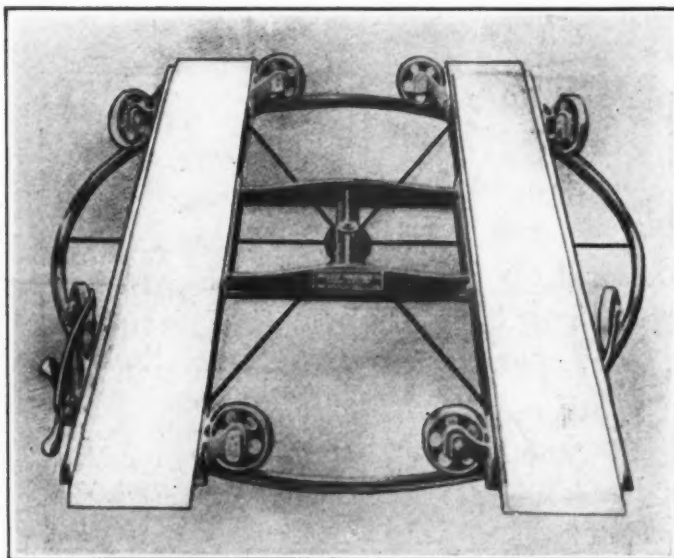

Fig. 1—Pitless automobile turntable for garages
**T**HE Pitless Auto Turntable Company, 1316 West Ninth street, Kansas City, Mo., manufactures a turntable, Figs. 1 and 6, which may be installed in any garage or sales-room, as it requires no pit. The turntable consists of a circular frame which is braced by six diametrical stayrods; the frame has a smoothly ground surface and serves as a running track for eight casters on which the automobile to be turned is supported. This rests directly upon two parallel runways of a strong steel, which are 15 feet wide and 3 inches above the floor, being directly carried by four ball-bearing casters or rollers each. These rollers are connected by hangers to the runways and one of the rollers is equipped with a foot-brake shoe which, when applied to the periphery of the roller, holds it securely in position on the circular track. Another ball bearing, which is of the thrust type, supports the central portion of the turntable, where the stayrods intersect and are strengthened by a king bolt. Thus the track is the only portion resting directly upon the floor. The manufacturer supplies the turntable in any one of four sizes, which are designed for the operation of automobiles having wheelbases up to 90, 116, 124 and 145 inches. The tread range of the first type is from 46 to 56 inches and of the others from 50 to 60 inches, the runways being sufficiently wide to permit of tire changes being made on them. The turntable ranges in weight, for the various sizes, from 1000 to 1500 pounds and is shipped by the factory crated so that it may be readily installed at its destination by the owner.